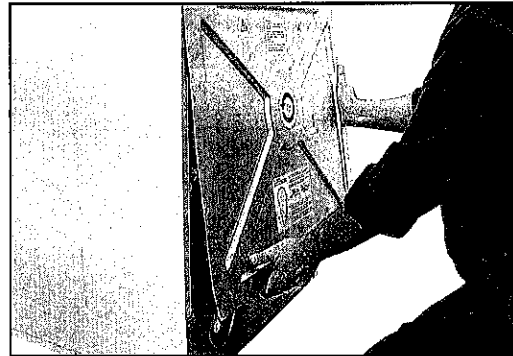

fig. 1
- Rear central cover. Take out the fastening screws, move the cover upwards and separate it from the machine (*fig. 1*).